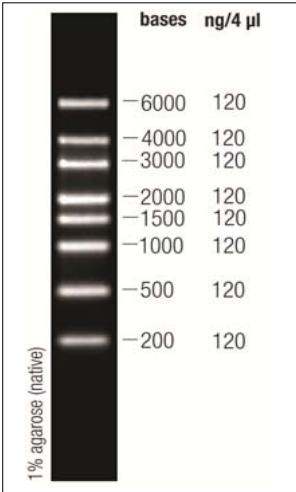

Fig. 3. RiboRuler RNA Ladder, High Range, ready-to-use.
- Use RiboRuler RNA Ladder, High range, ready to-use (Fig.3), provided with the kit for the sizing and approximate quantification of the transcript.